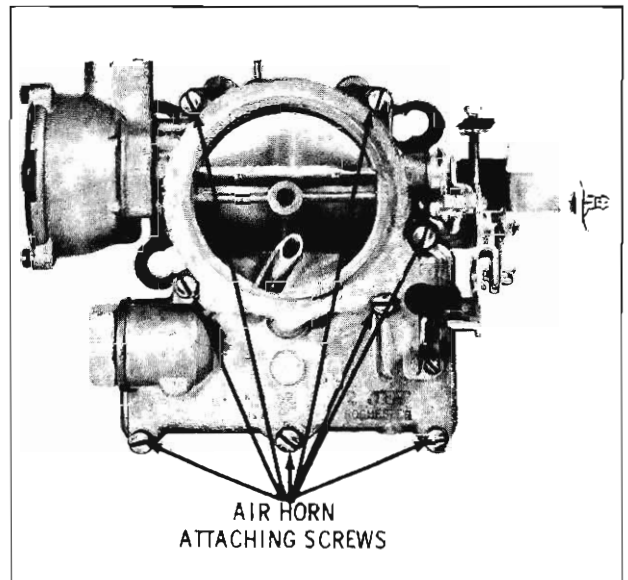

Fig. 4-132 Air Horn Attachment
8. Remove eight air horn attaching screws and carefully remove air horn from float bowl by lifting upward. (Fig. 4-132)